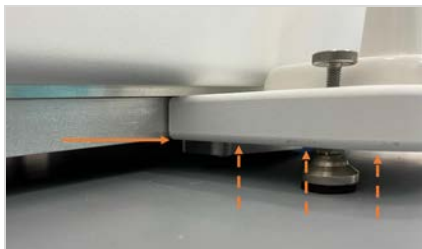

Figure 5: Tab (production version is white) flush against the large bracket and BD MAX base plate
1. Push the bracket upwards when tightening the 3/8" screws at the front of the BD MAX). The tab should be flush against the side support strut (Fig. 5).
2. Level the large white bracket using the thumb screw (foot) until it presses the tab on the bracket against the bottom of the instrument (Fig. 5).